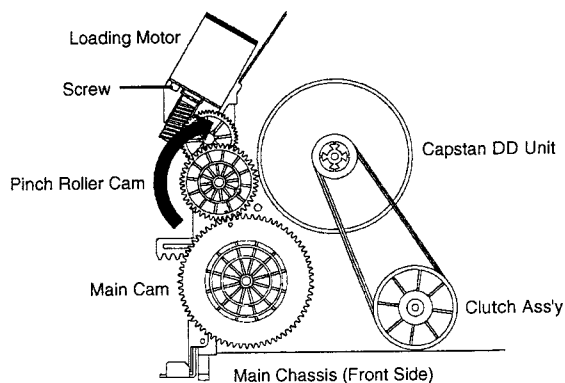

Fig. 2
1. Remove the Top Cabinet, Front Cabinet and DVD Block. (Refer to item 1 of the **DISASSEMBLY INSTRUCTIONS.**)
3. Rotate the Pinch Roller Cam in the direction of the arrow by hand to slacken the Video Tape. (Refer to Fig. 2)